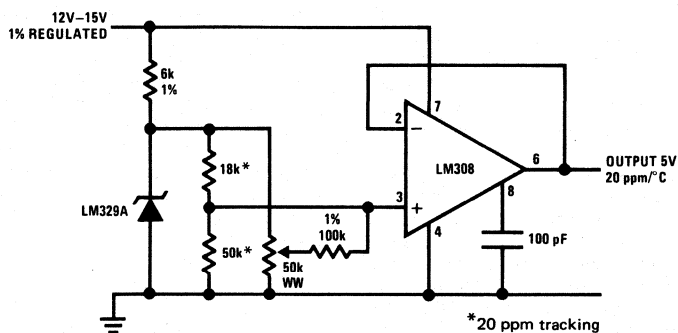

FIGURE 2. Low Voltage Reference
When output voltages less than the zener voltage are desired, the IC zeners significantly simplify circuit design since no auxiliary regulator is needed for biasing. *Figure 2* shows a 5V reference circuit for use with a 15V input.
**FIGURE 2. A/D Converter Reference. The 10k Pot is Adjusted to a Voltage of 2.49V on the Output; at this Voltage Minimum Drift Occurs. The Reference can Supply up to 8 A/D Converters.**
shown in *Figure 2*. One reference can be used for many A/D's. The value of the upper series resistor R1 depends on the number of converters used.